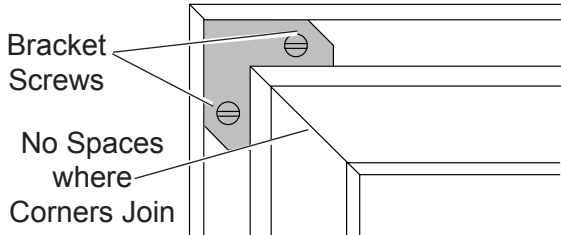

Figure 11 - Making Sure Corners Are Flush
4. Hold the corners together securely. Tighten screws on bracket with flat head screwdriver. Make sure the corners are flush and there are no spaces. **Do not over tighten screws.** See Figure 11.